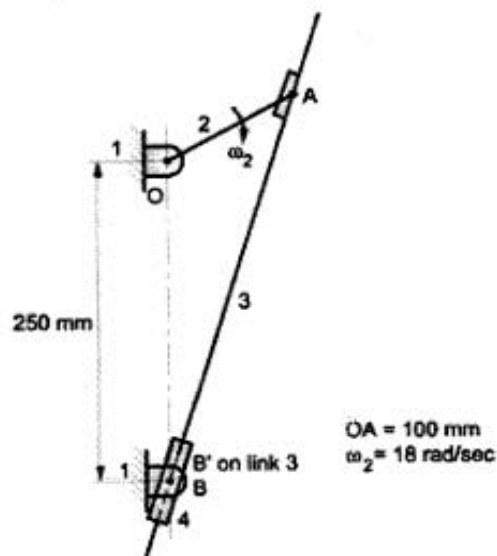

Fig. 4
b) For the mechanism shown in the Fig. 4 find the acceleration of the slider B.